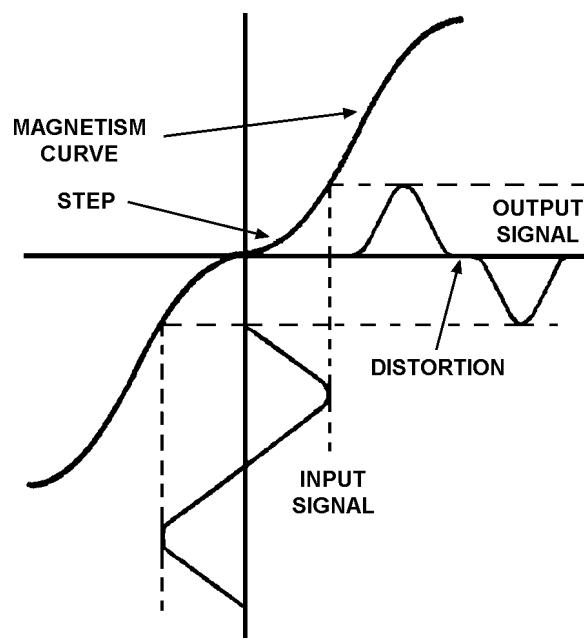

Figure 1-1.—Magnetic recording without bias voltage.
The best magnetic recording is the one that produces an output signal identical to the input signal. It didn't take long to realize that the magnetism generated during the recording process didn't vary directly to the current which caused it. This is because there's a *step* in the magnetism curve where it crosses the zero point and changes polarity. This step causes the output signal to be distorted when compared with the input signal. Figure 1-1 shows this step.
- A-1. *Because a step in the magnetism curve where it crosses the zero point and changes polarity causes the output signal to be distorted. See figure 1-1.*